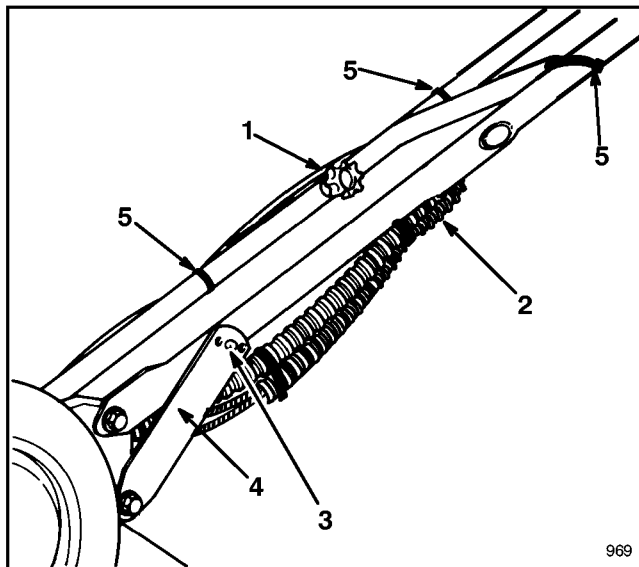

Figure 1
1. Align handles and tighten handle knobs (Fig. 1). Bend handle latches slightly toward each other (Fig. 1).
2. Pivot handle backward until handle stud snaps into center hole of handle latch (Fig. 1). If handle height is not satisfactory, adjust by placing handle stud into a different hole. Secure control cables in position with cable ties.